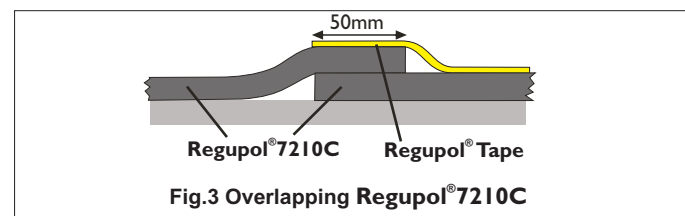

Fig.3 Overlapping Regupol® 7210C
4. **Overlap all joints (both along and across the roll)** by at least 50mm and tape all joints using **Regupol® Tape** only (see Fig. 3).